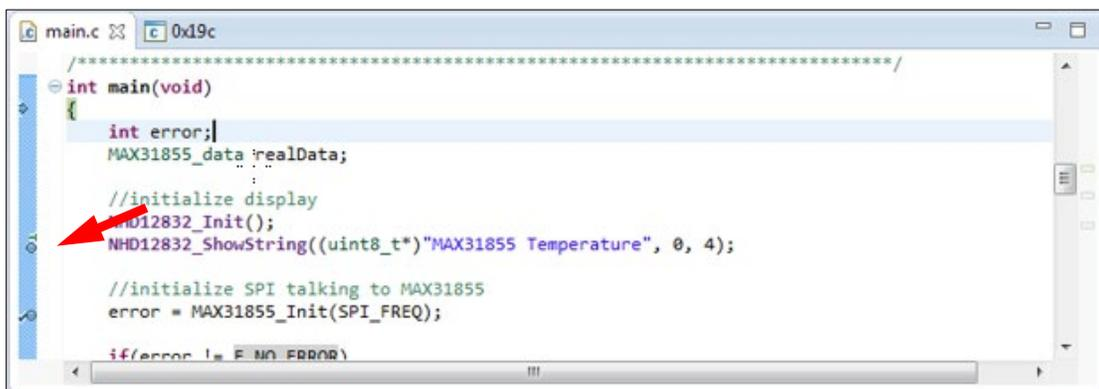

Figure 10. Setting a code line breakpoint.
5. Set breakpoints by double-clicking the blue vertical bar next to a code line, as shown in **Figure 10**.